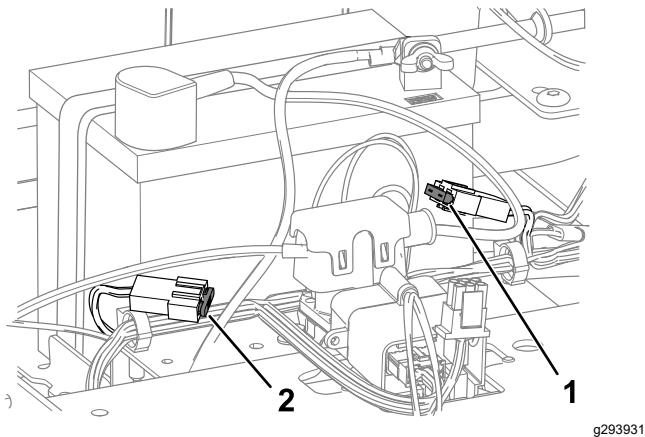

Figure 49
4. To replace a fuse, pull out the fuse to remove it (Figure 49).